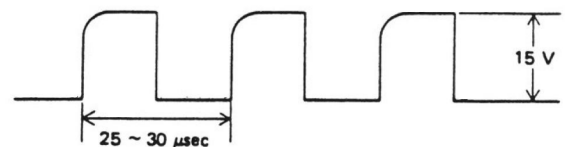

Fig. 7
2) Adjust VR1 to obtain maximum clock cycle of 30 $\mu$ sec. See fig. 7.